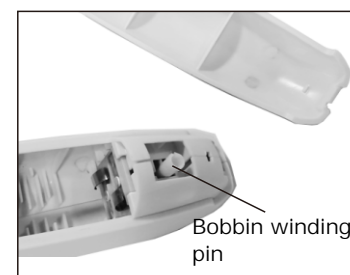

Fig.1
1. Open the battery cover and take out the bobbin winding pin (Fig. 1). Close the battery cover.